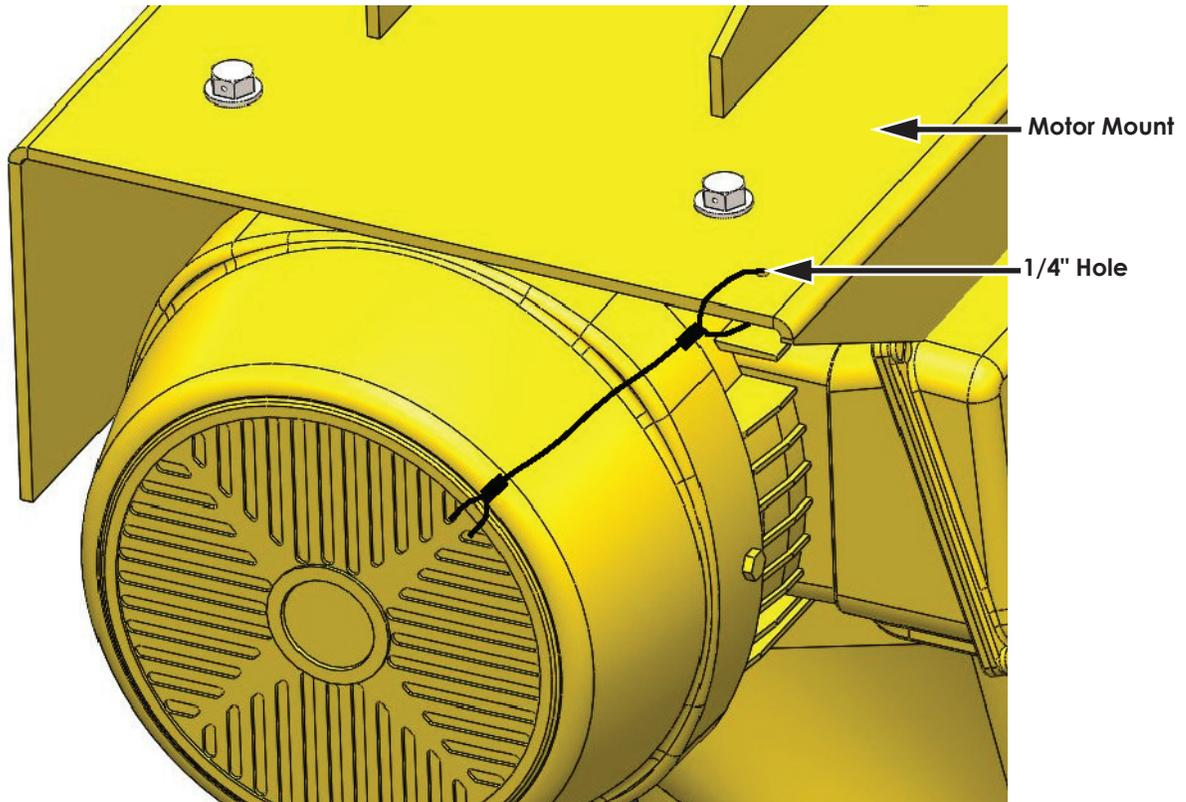

Figure 4: Fan cover secured to the motor mount
6. Alternatively, drill a 1/4" hole in the motor mount, loop the 1/8" wire rope through and crimp it. See Figure 4.